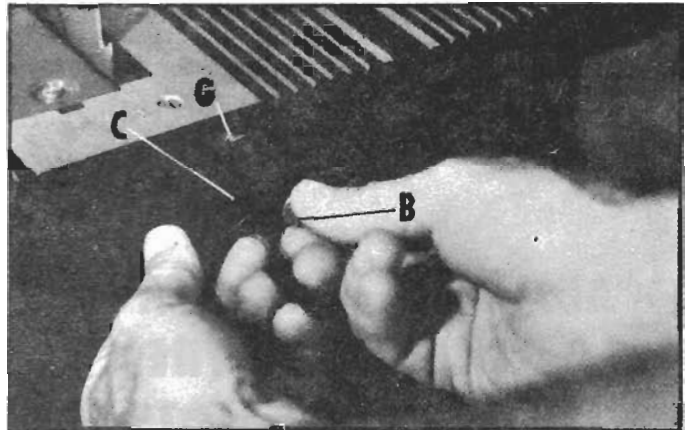

Fig. 18
4. Assemble the spreader bracket (C) Fig. 18 to the rear of the saw table by threading screw (B) into internally threaded pivot rod (G).